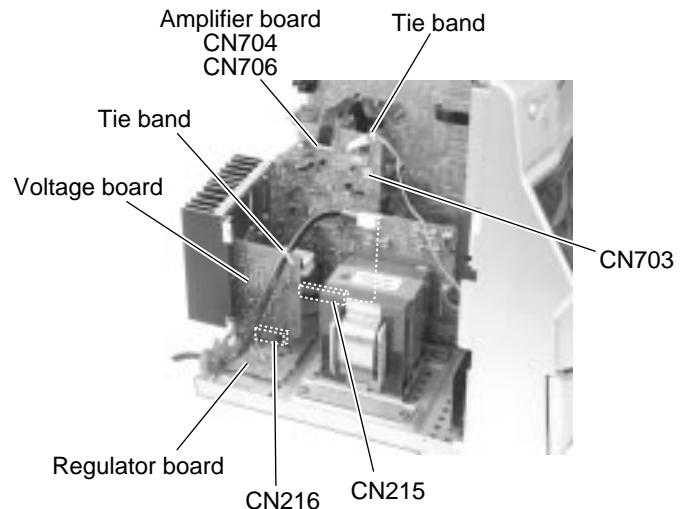

Fig.19
■Removing the amplifier board / voltage board / heat sink (See Fig.19 and 20)